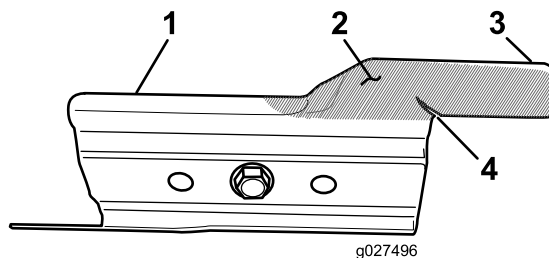

Figure 25
Carefully examine the accelerator for excessive wear (Figure 25). Because sand and abrasive material can wear away the metal (especially in the area shown as item 2 in Figure 25), check the accelerator before using the machine. If you notice that a tab on the accelerator has been worn down to a sharp edge or there is a crack, replace the accelerator; refer to Inspecting the Accelerator (page 19).